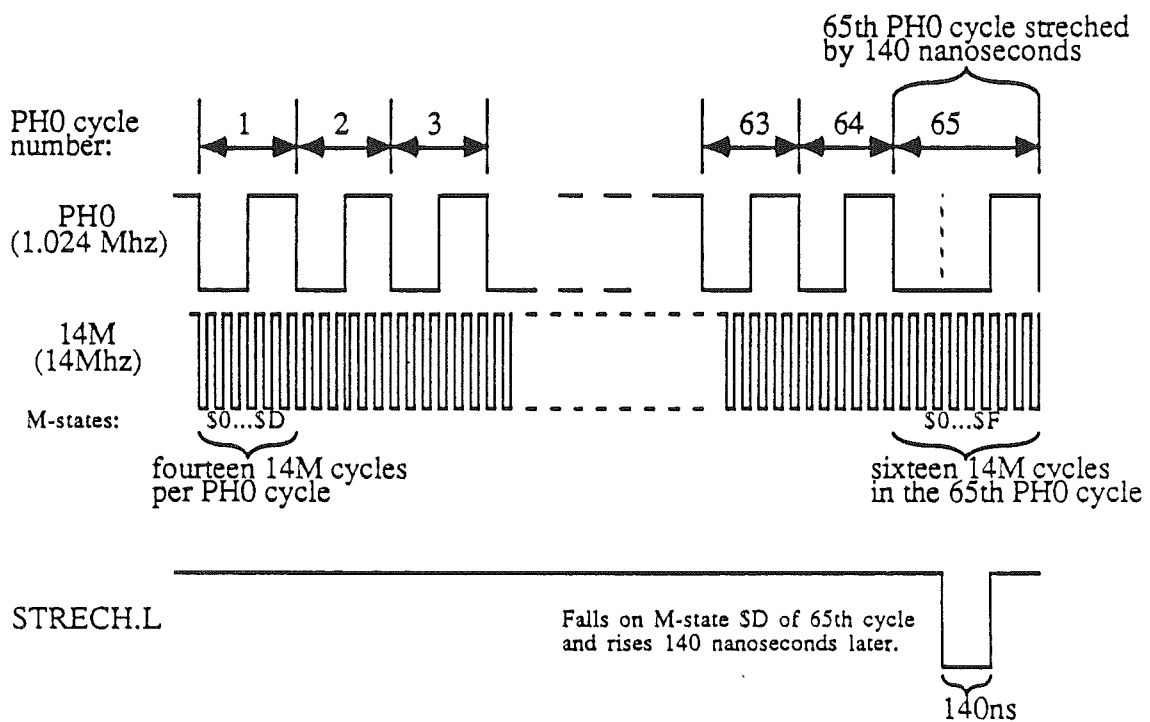

Figure 2-8. PH0 cycles, 14M cycles and M-States.
To help keep track of where the Mega II is in its cycle, the FPI uses an internal counter called the M-State counter, which counts the 14M cycles within one PH0 cycle. There are 14 (SE) M-States (14M cycles) per PH0 cycle. Figure 2-8 shows the relationship between the PH0 cycles and the M-States.